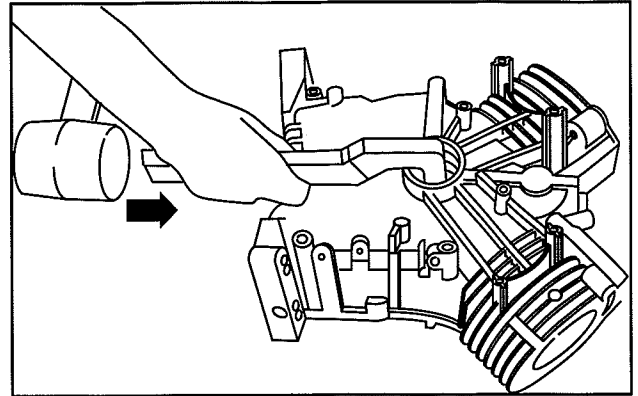

Fig. 14 – Installing Roll Pin
6. Use Tool #19344, Roll Pin Driver, to install new roll pin, Fig. 14.